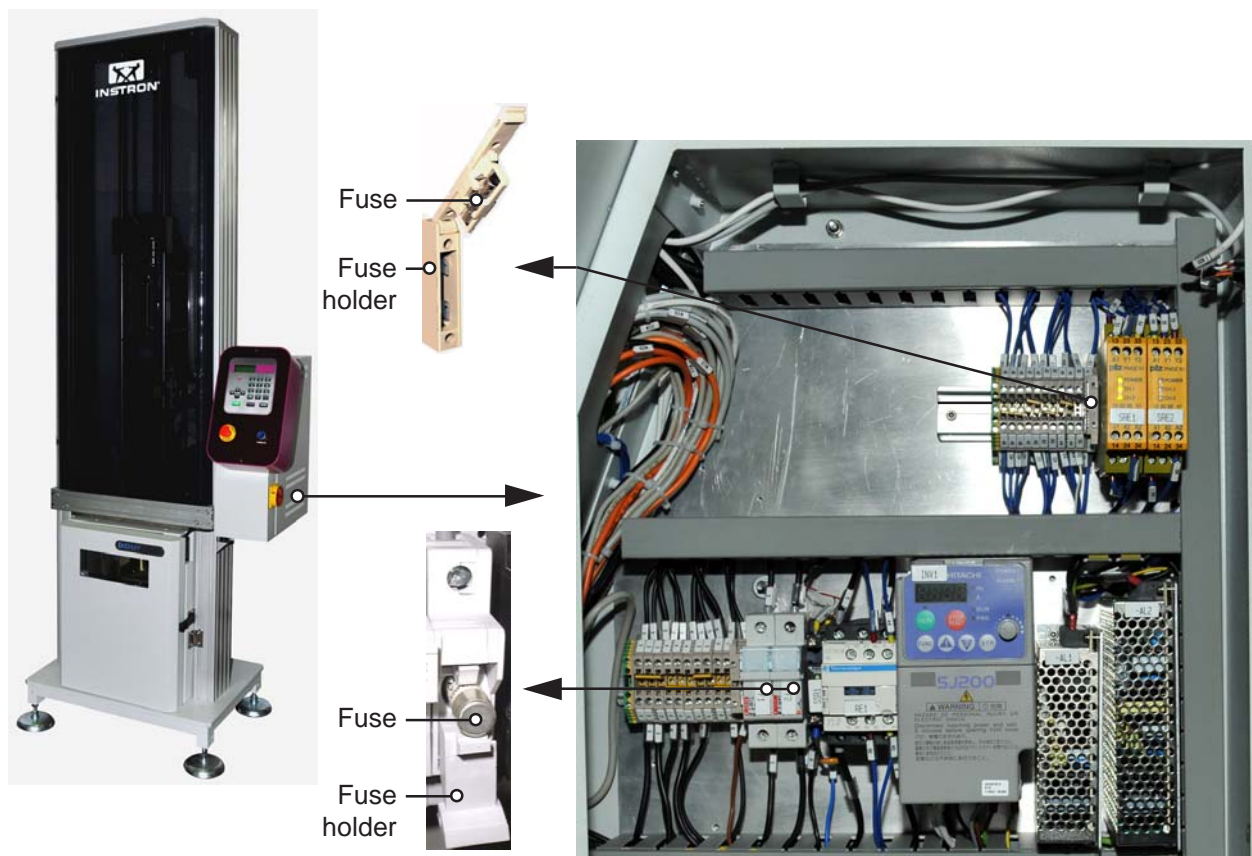

Fig. 1 - CEAST 9340 electric board (right side of instrument)
- ▶ a) Remove the panel that close the electric board (Fig. 1 or 2).